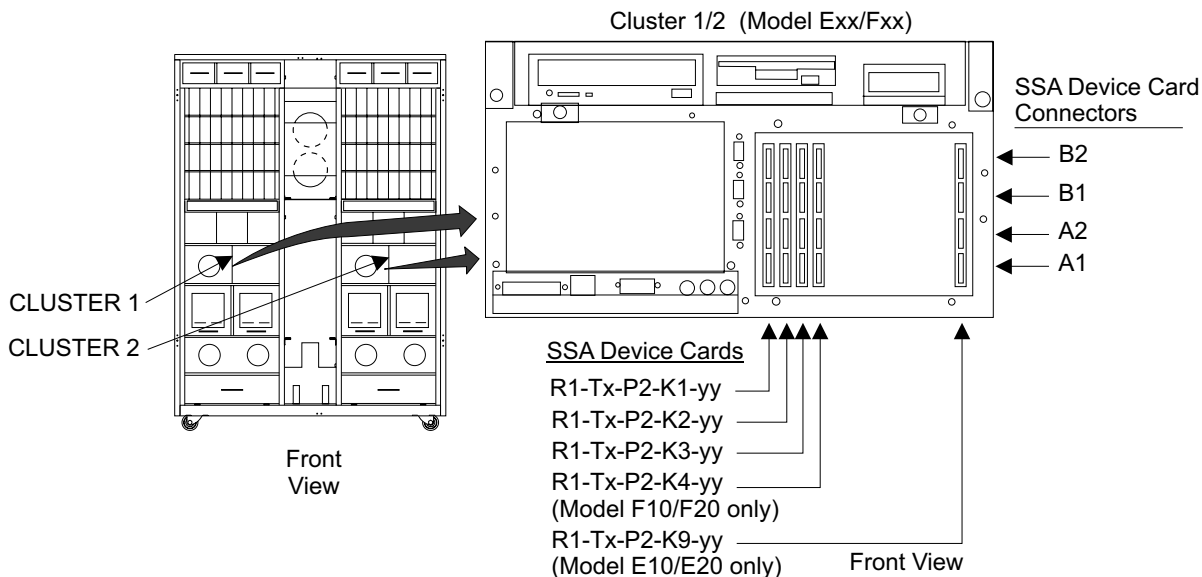

Figure 103. Cluster SSA Device Card Locations (S008022m)
2. Locate the cluster and the SSA device card using the information below and in Figure 103.